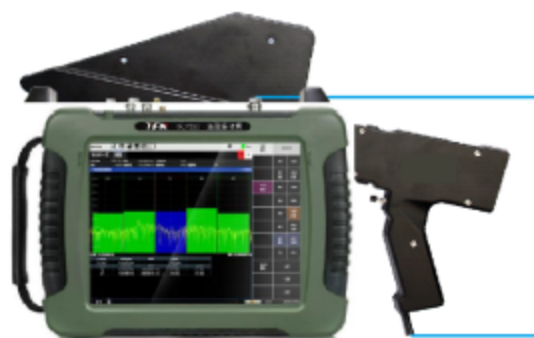

Figure 9.8 Connecting of hand-held DF antenna and RMT series spectrometer
Step 1. Connect the handheld DF antenna to the RMT series spectrometer RF input port and the USB port, as shown in Figure 9.8: